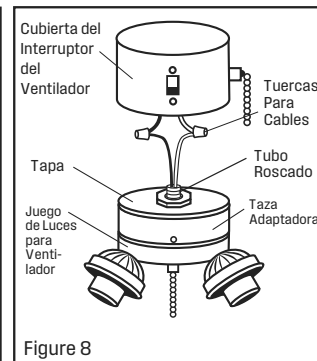

Figure 8
The universal installation usually works on all fans. This method uses the switch housing cap on the fan and an outer threaded tube to mount the light kit (See figure 8). This installation is used when the other two will not work. Please refer to the Installation Instructions titled Universal Installation. Please review the information at the end of this manual that refers to your particular light kit.
6. Connect these wires to the light kit wires using the wire nuts already attached (See figure 8). White (gray) to white and blue (red) to black.